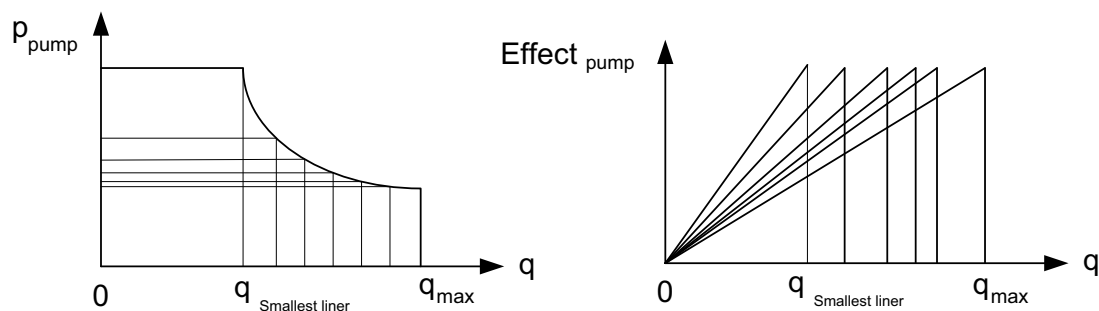

Figure 4-1: Maximum pump pressure for each liner (left) and maximum effect for the same liners (right)
a) Characteristic diagrams of mud pumps are shown in Figure 4-1:
Power or effect = $E = p \cdot q$, is expressed in Horse Power (HP) or in watt (W). As shown in Figure 4-1 (to the right) the maximum effect is constant for all liners